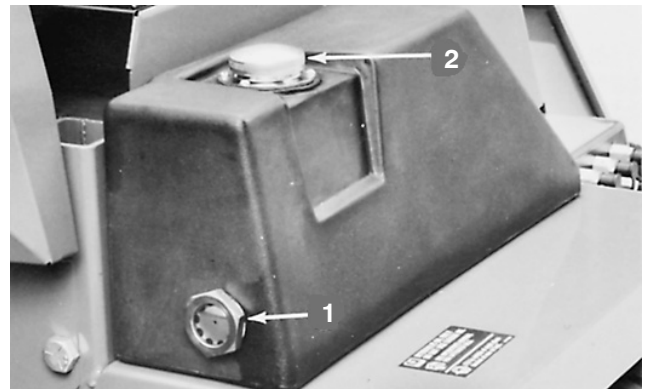

Figure 10
1. Fluid level should be checked daily through sight glass at rear of hydraulic reservoir (Fig. 10). When oil is cold, level will be slightly below center, but should be in the middle of the sight glass when the oil is warm.
2. If oil level is low, add hydraulic oil to the reservoir (Fig. 10); refer to Servicing the Hydraulic System, page 44.